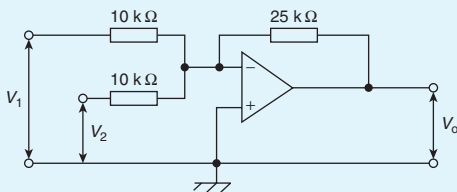

Figure 19.19
2. In the circuit of Fig. 19.19, determine the value of the output voltage, V_o , when (a) $V_1 = +1\text{ V}$ and $V_2 = +3\text{ V}$ (b) $V_1 = +1\text{ V}$ and $V_2 = -3\text{ V}$